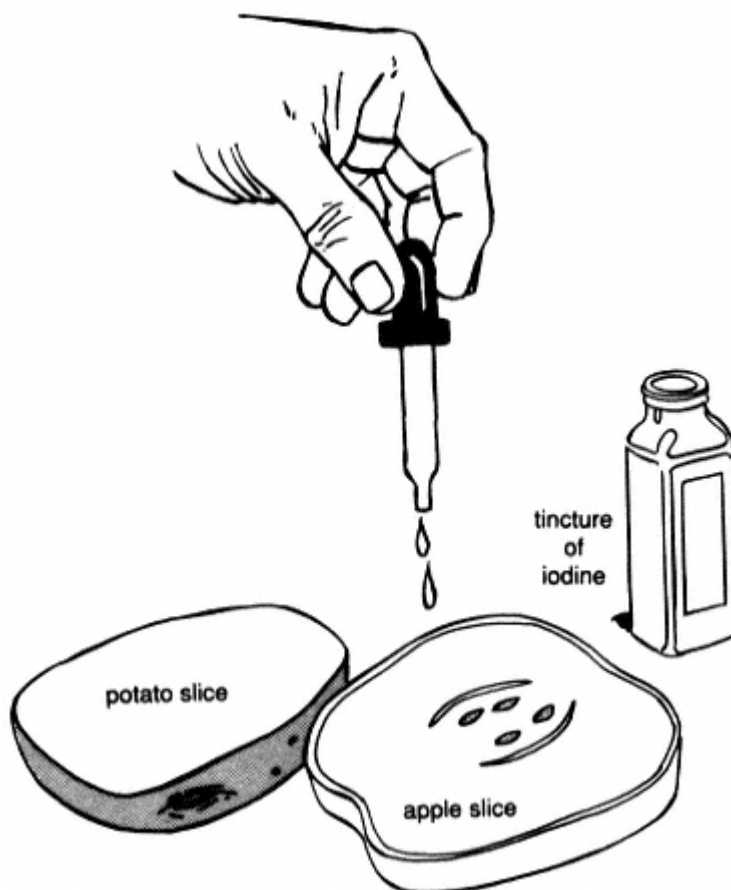

Figure 10.2
1. Starch and cellulose are polysaccharides. Use drops of tincture of iodine to distinguish between starch and cellulose. **CAUTION:** Keep the iodine out of reach of small children. It is poisonous and is for external use only. Starch turns blue-violet to black when iodine touches it, but cellulose does not alter the reddish brown color of iodine. Demonstrate this by putting several drops of iodine on a slice of apple and on a slice of white potato (see Figure 10.2).